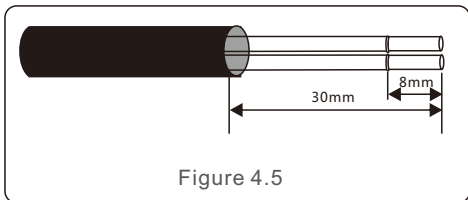

Figure 4.5
- Strip the insulation and shield to a suitable length. Use diagram below as a guide. (in Figure 4.5).